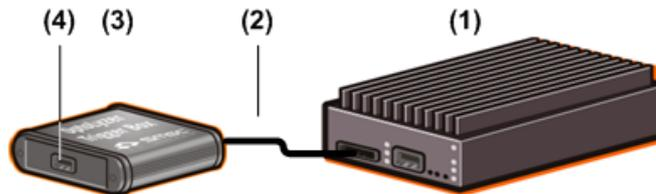
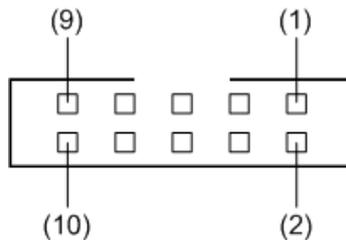

Figure 6-1: Connection of the OptoLyzer Trigger Box
Figure 6-2: Trigger Interface Front View
Figure 6-1 depicts how to connect the OptoLyzer OL3150o to the OptoLyzer Trigger Box.
Figure 6-2 depicts the pins of the Trigger interface (see number (4) in Figure 6-1) of the OptoLyzer Trigger Box.